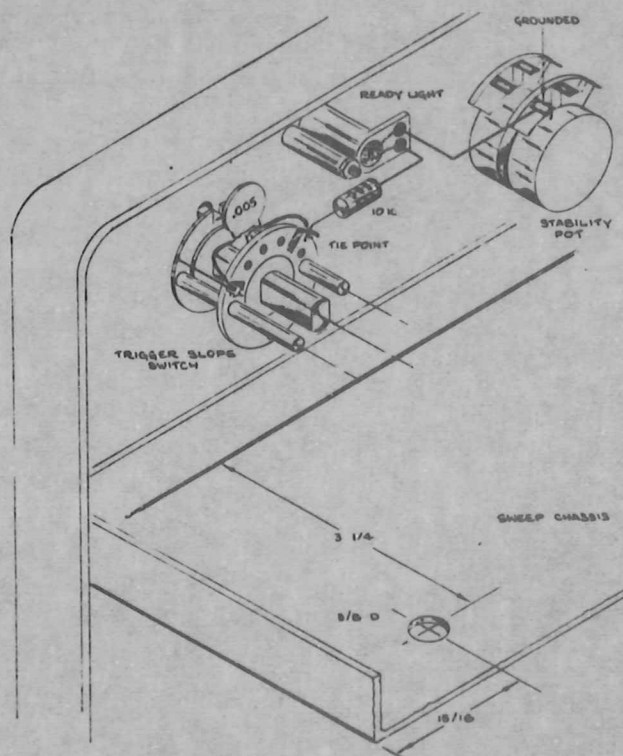

Fig. 4
- () 11. Dress the white and white-violet wires from the cable toward the front panel, beneath the TRIGGER SLOPE switch, to the tie-point on the switch shown in Fig. 4.
- () 17. Solder the bare wire (from neon assembly) to the grounded terminal on the STABILITY (rear) potentiometer (see Fig. 4).
- () Solder the other end of the capacitor to the grounded terminal on the last wafer of the TRIGGER SLOPE switch, as shown in Fig. 4.